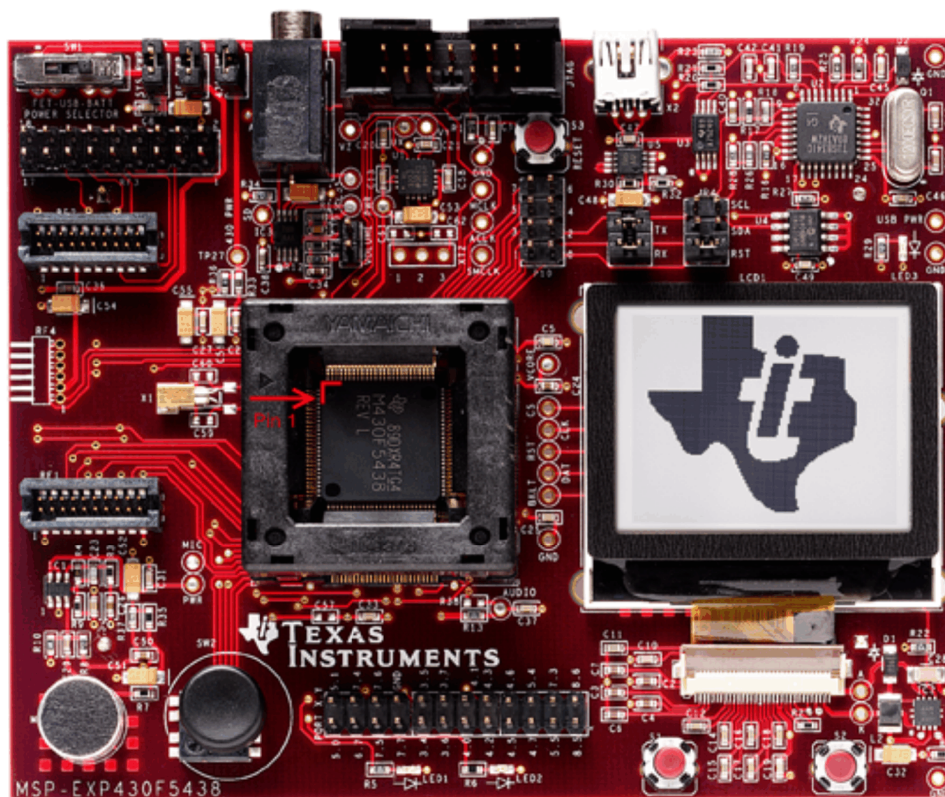

Figure 1-1. MSP-EXP430F5438 Experimenter Board
1. Populate the three headers on JP4 (SCL, SDA, RST) and insert the MSP430F5438 device into the socket with pin 1 at the top-left corner of the socket (see Figure 1-1). The jumpers on JP5 may be used to complete this procedure.